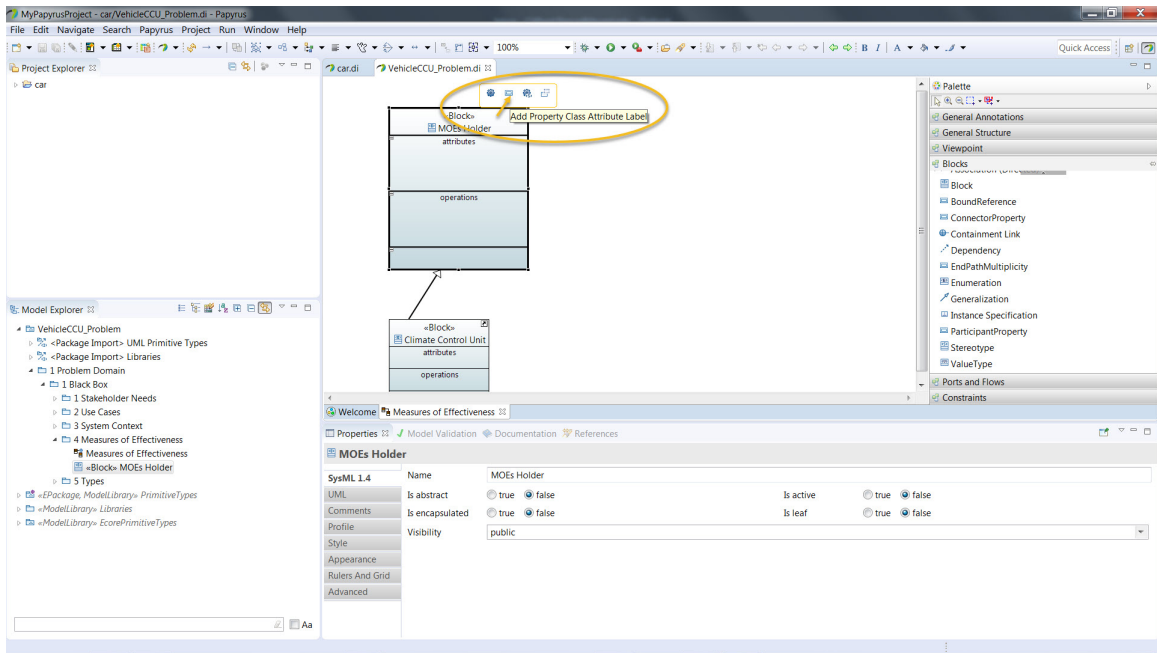
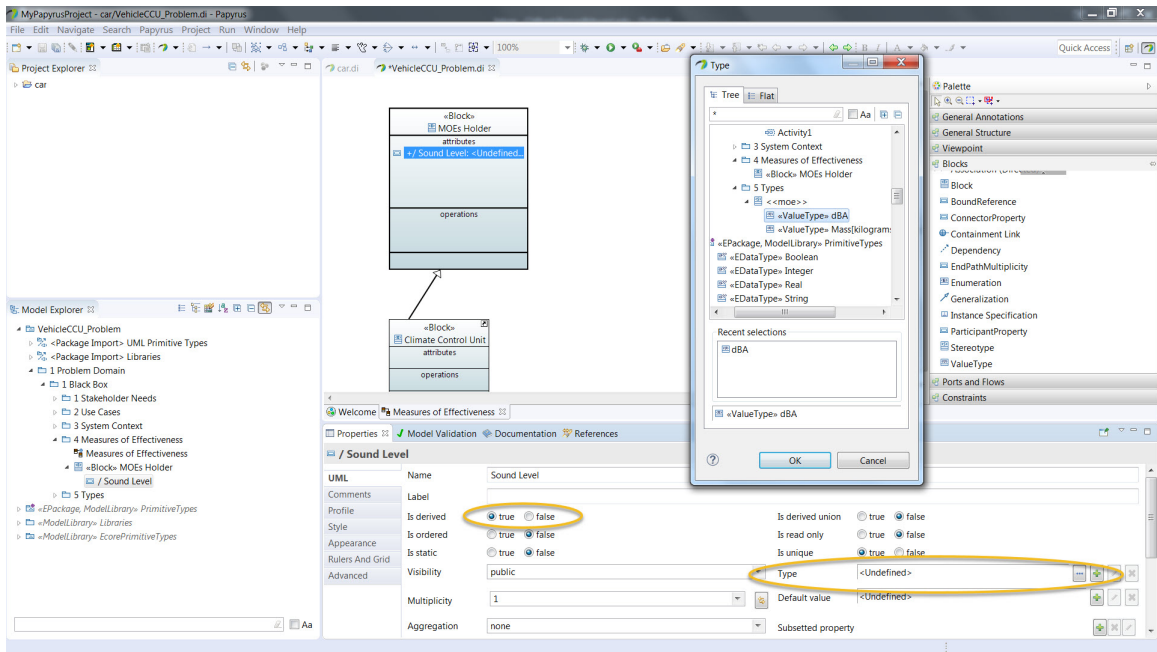

Figure 83: Class Attribute Pop-Up Menu.
Figure 84: *Sound Level* Attribute Properties.
10. Now we will define our MOE attributes. Click on the *MOEs Holder* block and you should see a pop-up menu at the top of the block. Select **Add Property Class Attribute Label** (figure 83) and hit <Enter>. Go to the **Properties** window at the bottom of the screen and select the **UML** tab. In the **Name** field type *Sound Level*. Select **true** for the **Is derived** attribute. This means that the sound level will be a calculated value. Finally, in the **Type** field click on the three dots to the right of the field to open the pop-up menu to define the type. Select the *dBa* value type that we created in the *Types* package and then click <OK> (figure 84).